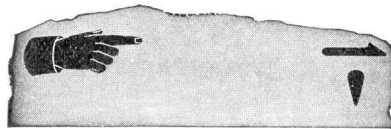
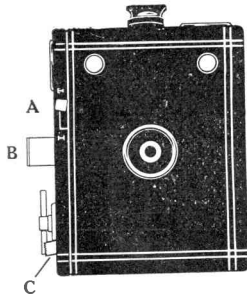

Fig. 7
Fig. 1
8. Turn the key slowly to the left and watch in the little red window at the back of the camera. When 15 to 18 turns have been given, a hand pointing toward the No. 1 exposure will appear, then turn slowly until the figure 1 appears before the window. (Fig. 7)
When snapshots are to be made see that lever A is at the end of slot marked “I” and that lever B is pushed all the way in. When lever B is pushed in, the largest stop opening will be in front of the lens. See Fig. 1.